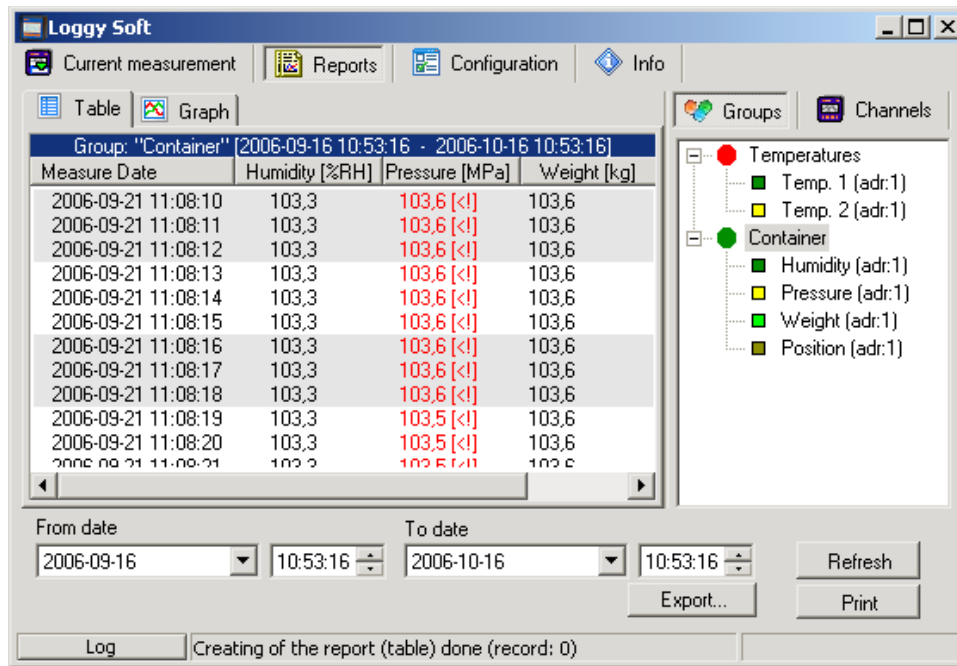

Fig. 3.3. **Reports** - menu
The **Table** tab (Fig. 3.3) is used for printing information concerning recorded measurements (e.g. temperature, humidity) in the form of a table for one of the groups or a particular measurement channel selected by the user (for more information on groups see 3.3.2 section, at page 103). This tab also enables the export of data to text format files. The exported file is formatted in a way allowing the transfer of data to a calculation sheet.
- click appropriate tab **Groups** or **Channels** (Fig. 3.3),